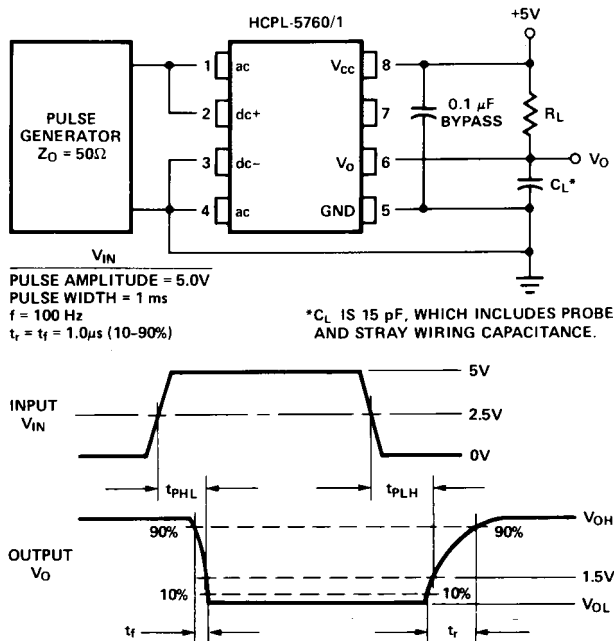

Figure 7. Switching Test Circuit.
- The t_{PHL} propagation delay is measured from the 2.5 V level of the leading edge of a 5.0 V input pulse (1 μs rise time) to the 1.5 V level on the leading edge of the output pulse (see Figure 7).
- The t_{PLH} propagation delay is measured from the 2.5 V level of the trailing edge of a 5.0 V input pulse (1 μs fall time) to the 1.5 V level on the trailing edge of the output pulse (see Figure 7).